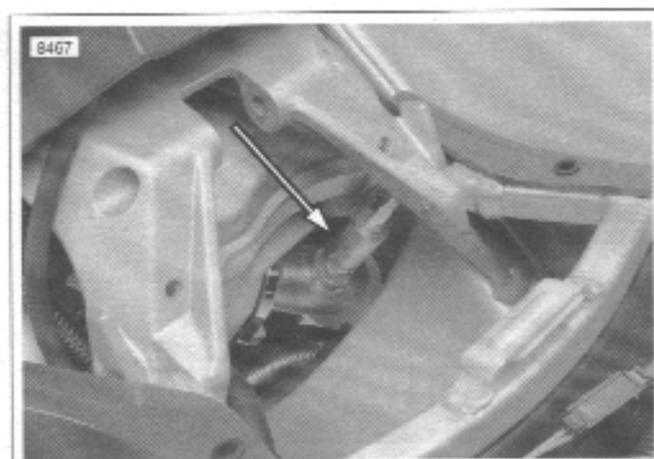

Figure 4-38. Oxygen Sensor (shock absorber removed)
- **Loose O₂ sensor.** See Figure 4-38. If the O₂ sensor is loose engine performance may be affected. This could also show up as a slow changing O₂ sensor voltage.